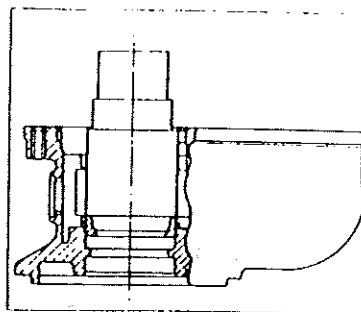

Figure 904. Installing Bearing Outer Race
- E. Using large end of the 11-6924-1 Pressing Tool and an arbor press, seat outer races of bearings (64 and 70) in magneto and distributor housing. See Figure 904.
- F. To determine the proper bearing preload, temporarily assemble magnet (54) with gear, bearings and original shim washers in place into housings (48 and 50), using gasket (49) when applicable. Install screws with lockwashers (47) to secure housings together. To avoid possibility of excessive bearing preload, test magnet for free turning as screws are tightened. Magnet must turn freely and have no perceptible end play. If bearings become tight as screws are tightened, disassemble and remove about 1/4 of the shim washers on each side of magnet. Reassemble magneto and tighten screws with 30 to 35 lb-in. of torque. Hold magnet firmly in one hand, and while pushing inward as hard as possible on shaft, try magnet for radial play by rocking magnet up and down. If any play can be felt add a thin shim washer and repeat test.
*If magnet turns with any feel of binding or rubbing, this indicates the magnet shaft is probably bent. Do not attempt to straighten a bent magnet shaft. Replace the magnet (54).*